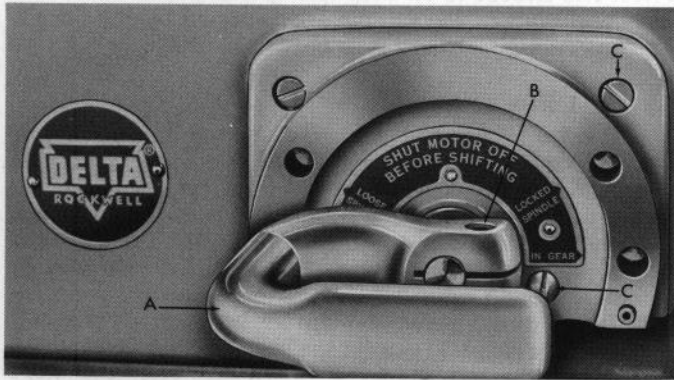
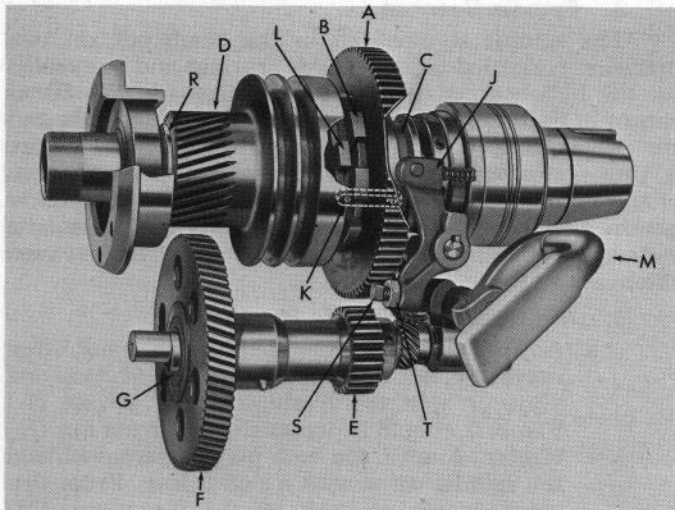
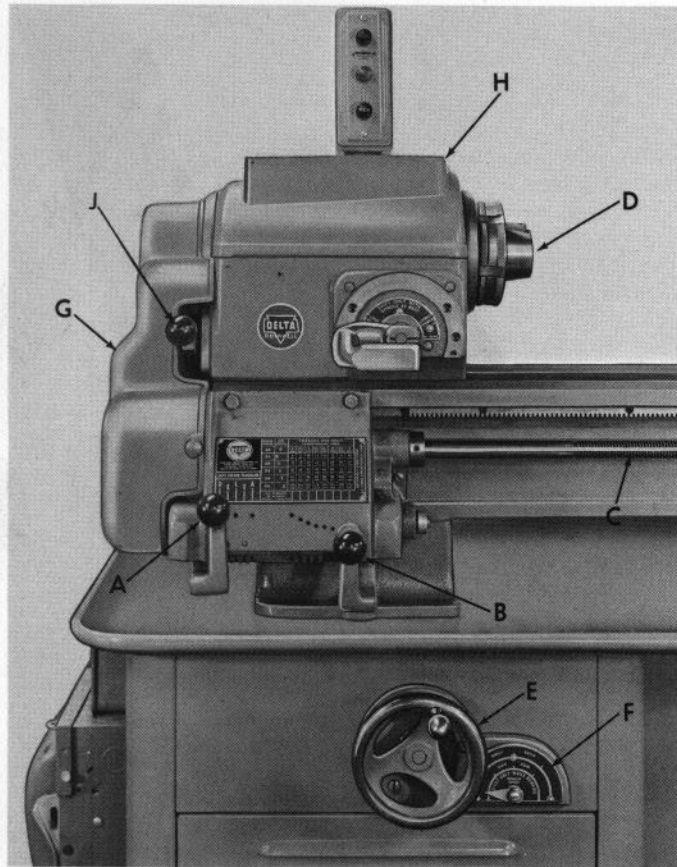
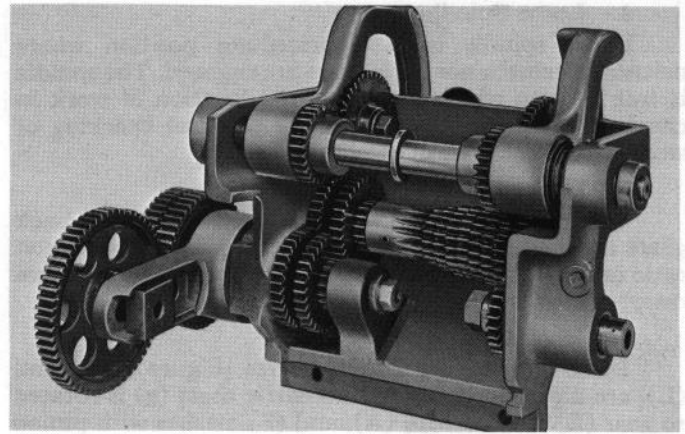

Figure 4
Figure 7
Figure 10
Figure 11
1. Turn the variable speed drive handwheel (E) Figure 10, and raise the aluminum variable sheaves, (H) Figure 13, to maximum height.
The back gears provide the slow spindle speeds required for heavy cuts and correct surface speeds for large diameter work and threading. The lathe back gearing mechanism is shown in Figure 7. This is totally enclosed in the headstock casting which conserves space and provides maximum safety. Direct drive, loose spindle, locked spindle and back gear drive are obtained by simply shifting lever (A) Figure 4, to the desired position. *Shifting from one position to another must be done only when the motor is off and the spindle is at rest.* The four conditions of the spindle are obtained by the following construction, referring to Figure 7.
The bull gear (A) Figure 7, clutch half (B), and groove ring (C) assembly is mounted on the spindle with a key (K), which restricts the assembly from rotating about the spindle; however, the fit is such that axial movement along the spindle is possible. The integral pulley pinion (D) and clutch half (L) are mounted on precision ground oilite bearings and rotate freely on the spindle. In direct drive the shifter lever arm (J) riding in the groove ring (C) pushes the bull gear, (A) and clutch half (B) to the left engaging clutch half (L). The back gears (E) and (F) mounted on the eccentric shaft (G) remain in the disengaged position.
In back gear, the clutch halves [Figure 7 (B) and (L)] are disengaged and the eccentric shaft (g) is rotated so gear (E) meshes with (A); and (F) meshes with pinion (D). The motion through the gear train is transmitted to the integral pulley and pinion (D) from the variable drive unit, not shown. (D) drives gear (F), (F) drives gear (E), (E) drives gear (A) which is keyed to the spindle by key (K), see Figure 7.
- Place the lever (A) Figure 4 in a vertical position.
- Remove two screws, (C) located across bottom of plate Figure 4.
- Make clutch adjustment by turning square head set screw and lock nut (S) and (T) Figure 7.
48 threads from 4 to 224 per inch can be made by shifting levers (A) and (B) Figure 10, and by changing
The quick change gear box functions as a control which correlates the r.p.m. of the lead screw (C) Figure 10, with the r.p.m. of the spindle (D) for any selected threading operation. It also makes available a wide range of power feeds for the carriage and cross slide. Figure 11 is an interior view of the quick change gear box.
When lever (J) Figure 10, is in upper position, the carriage moves to the right or the compound slide moves "out" (away from the lathe). When the lever is in the lower position the carriage moves to the left or the compound slide moves "in" (toward the lathe), and when the lever is in the center position, it is neutral and the lead screw remains stationary.
CAUTION: LEVERS A, B AND J FIGURE 10, SHOULD BE MOVED ONLY WHEN MOTOR IS TURNED OFF.
The infinite number of speed ranges between 45 and 1550 spindle r.p.m. obtainable by the use of the variable speed drive makes it one of the most versatile means of power transmission available. The lower portion of the speed range is accomplished by the 6:1 reduction through the back gears (E) and (F) Figure 7. The spindle speeds in back gear are 45 to 240 r.p.m. **CAUTION: CHANGING OF SPEEDS ON THE VARIABLE DRIVE IS ACCOMPLISHED BY ROTATING HANDWHEEL (E) FIGURE 10, ONLY WHEN MOTOR IS ON AND THE VARIABLE DRIVE SHEAVES ARE IN MOTION.**
whose positive action maintains this condition for any setting on the speed indicator dial (F) Figure 10. This construction feature eliminates oscillation of the variable drive sheaves on the shaft, a common fault of free floating type sheaves found in most variable drives of this type, this, in turn, reduces the amount of vibration, noise, and bearing wear.
1. Set drive selector lever (A) Figure 4, to direct drive position.
Turn variable speed drive handwheel (E) Figure 10, and raise the aluminum variable drive sheaves (H) Figure 13, remove upper variable drive belt (L) Figure 13.
6. Remove gear cover (G) Figure 10, and headstock cover (H) Figure 10.
alternate in tightening until the bearing housing pulls free. Remove spindle spacer (R) Figure 7.
CAUTION: To retain the stop parts of the hub in their proper place, always keep the hub against the apron. With the half-nuts closed, move lever (F) counterclockwise a few degrees and retighten the set screws. Move lever to close half-nuts and check lead screw to see if it binds after half-nuts have been adjusted. Disengage lever (B) Figure 10, and turn lead screw back and forth by hand. If it binds, half-nuts have been adjusted too tight. Move lever back to open half-nuts, loosen set screws and move lever in clockwise direction a few degrees and retighten set screws. Make this adjustment until lead screw does not bind when half-nuts are closed.